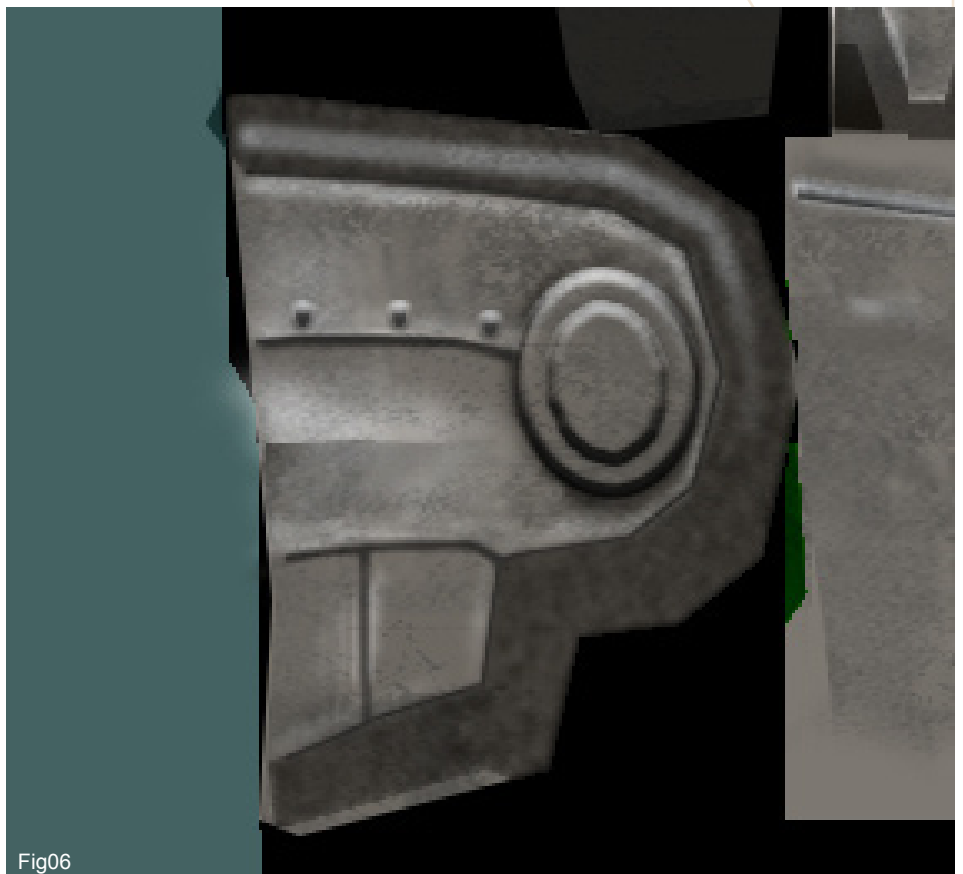

Fig06
6. This will be a metal overlay which shall eventually be used on all of the armour and so must be near the top of our layer stack. Choose any photo of metal that demonstrates the right kind of scale and then set it to 'multiply' and lay it over the top, making any colour / tonal adjustments as required (Fig.06). This then describes the general process we will apply to all of the armour sections, no matter how complex. Use the marquee / selection tools to add shapes followed by Layer Effects to add in detail and lighting. Then, either on a new layer or on the base colour, paint in the refinements, such as shading and highlighted edges etc. You can then clone parts of the metal overlay onto the designated area to complete the armour. Remember to use a guidelines layer initially, as we did with the skin section, to check the integrity of your mapping - no point in spending half an hour painting an area of detail only to find it is not correct on the model!